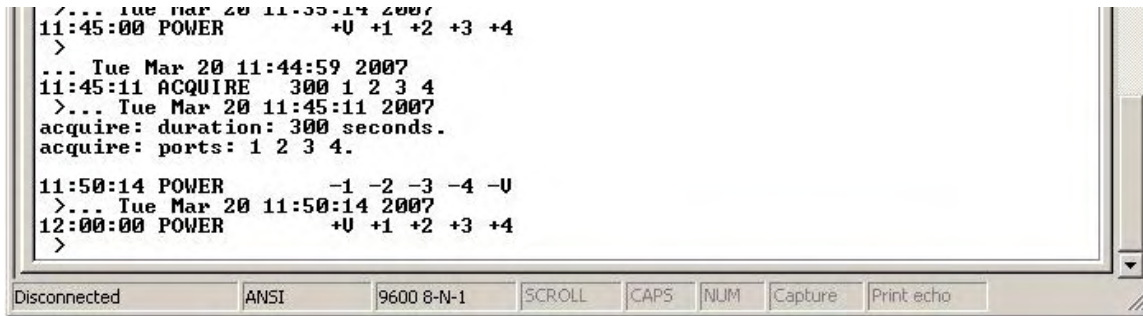

Figure 35 - STOR-X Acquire Event
16. The system is now running the deployment. The normal course at this point would be to leave the system for the duration of its deployment. The next acquisition event is shown in Figure 35.